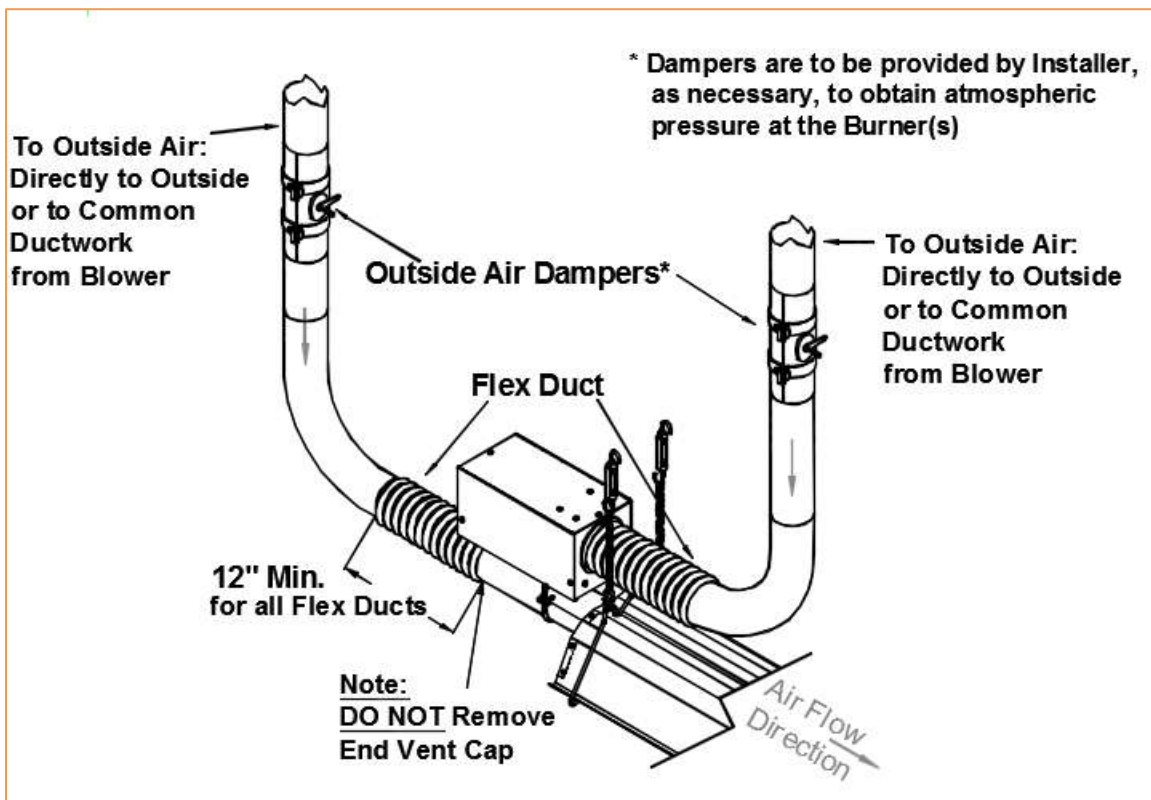

Figure 38: Outside Combustion Air Detail
3. Each Burner can be fitted with a 4" dia. fitting to accept 4" dia. Type C-Duct or 4" PVC pipe. Provision for thermal expansion of the System must be made when considering Combustion Air Supply Ducting. Ensure that the System movement/expansion does not restrict the supply of fresh air to the Burners or the Radiant Branches. (Refer to Figure 38 for clearance requirements)
As required, connect the Supply Ductwork in the same manner as for the Burner. (Refer to Figure 38 for details), DO NOT remove the End Vent Cap from the Radiant Branch to make this connection.